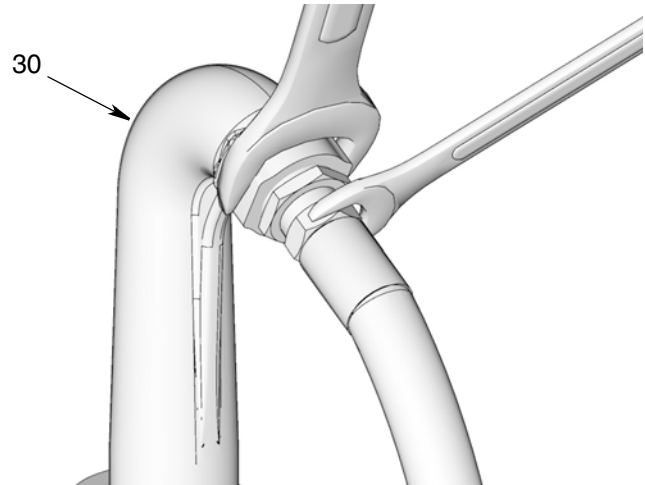

FIG. 58
9. Using two wrenches on the flats, working in opposite directions, loosen and remove the hose from the outlet fitting (FIG. 58).
**NOTE:** If a reducer (35) was previously installed, it can be reused if required or removed to accommodate a larger hose diameter.